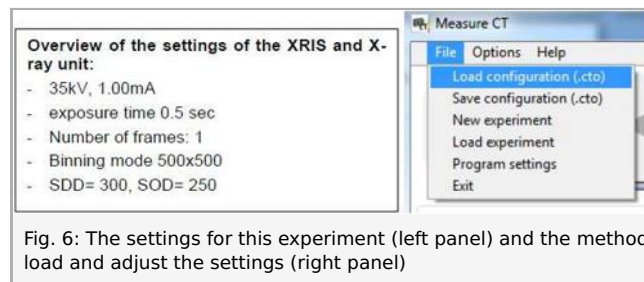

Fig. 6: The settings for this experiment (left panel) and the method load and adjust the settings (right panel)
- Adjust the XRIS settings and X-ray unit settings according to Fig. 6 or load the configuration from the predefined CTO file 'Experiment 5' (see Fig. 6).
- Start a new experiment, give it a unique name and fill in your details (Fig. 6). Alternatively it is also possible to load this experiment with pre-recorded images and open this manual. The correct configuration will be loaded automatically as well but the functionalities of the software will be limited to avoid overwriting the existing data.